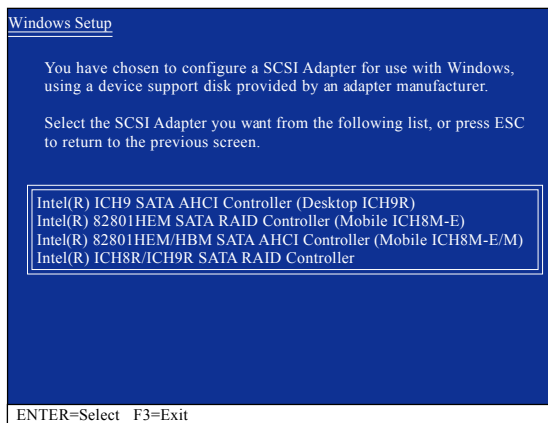

Figure 3
When Setup correctly recognizes the Intel ICH9R SATA RAID/AHCI driver in the floppy disk, a controller menu similar to Figure 3 below will appear. Use the arrow keys to select one of the items displayed and press <Enter>. If you set the **SATA RAID/AHCI Mode** item in BIOS Setup to RAID mode, select **Intel(R) ICH8R/ICH9R SATA RAID Controller**. (Select **ICH9 SATA AHCI Controller (Desktop ICH9R)** for AHCI mode.)